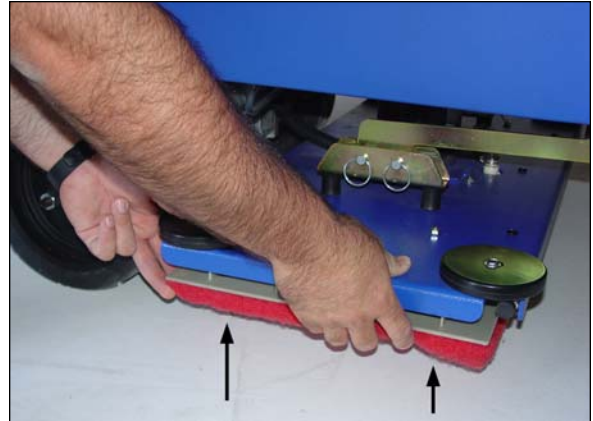

Figure 15
5. Press on a brush or pad under the flex plates. See figure 15.